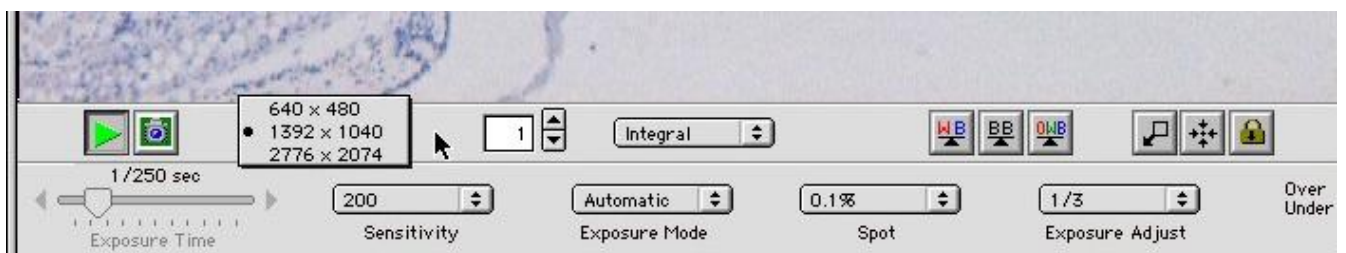

Figure 1: Adjustments in Viewfinder window
- Press Live image button (green triangle in Figure 1) in the Viewfinder window and then focus and move the sample with the help of the image on the computer screen.